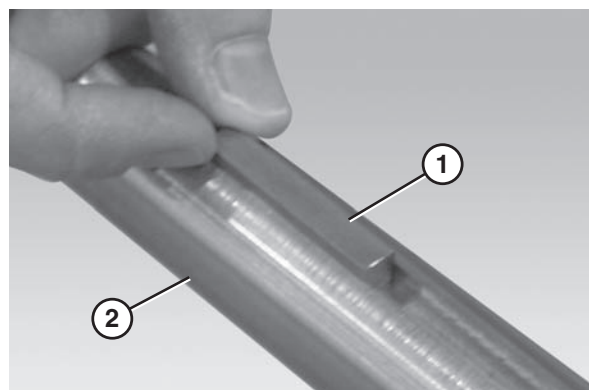

Figure 70
5. Remove the drive spindle key (Figure 70, item 1) from the drive spindle keyway (Figure 70, item 2).